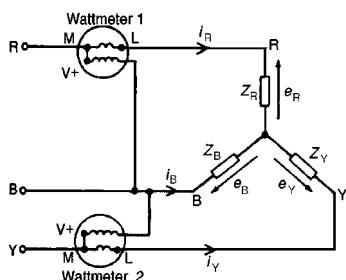

Figure 20.15
- (a) A connection diagram for the two-wattmeter method of a power measurement is shown in Fig. 20.15 for a star-connected load.
However, $(e_R - e_B)$ is the p.d. across wattmeter 1 in Fig. 20.15 and $(e_Y - e_B)$ is the p.d. across wattmeter 2 Hence total instantaneous power,